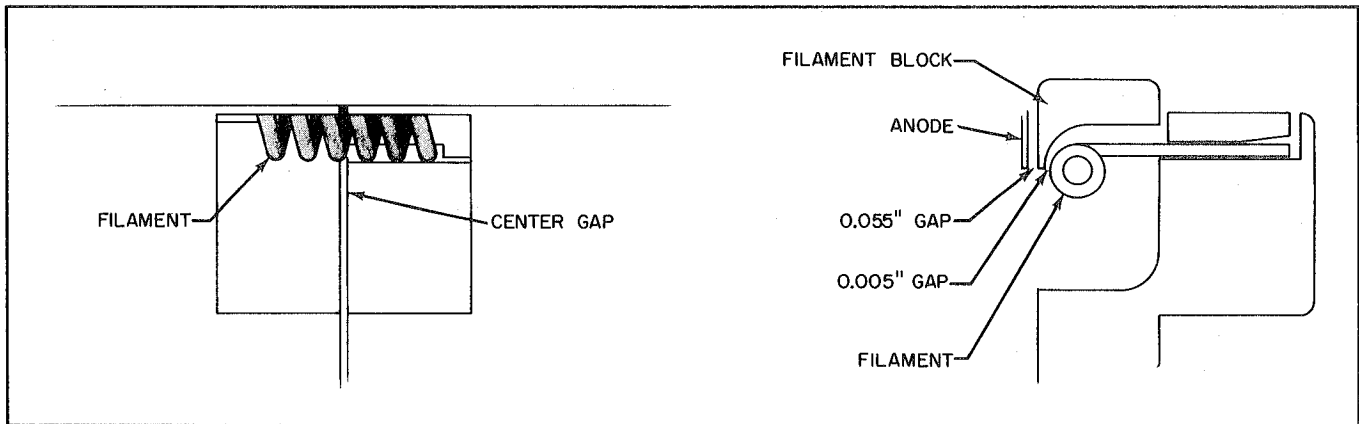

Figure 5-3. Cutaway Views Showing Properly Installed Filament.
The filament must be properly aligned as shown in Figure 5-3. If necessary, bend the legs slightly with pliers to achieve correct alignment.
- (10) From the front of the anode-cathode assembly, verify that the filament is centered in the cavity. Move it slightly from side to side to make sure the legs are centered in the V-groove in the clamp blocks. See Figure 5-3.
- (16) Tighten the filament screws to clamp the filament in position, making sure that there is a minimum of 0.005" clearance between the filament turns and the inner edge of the filament block directly in front of the filament. When properly located, the gap between the two middle turns of the filament should be immediately below the gap between the filament blocks. See Figure 5-3.
- (17) Install the anode on the anode base. Be sure to push it snugly against the shoulder of the recess in the base before tightening the anode screws. This will ensure the proper clearance of 0.055" +0.005" between the anode and the filament blocks.
- (18) Install the anode-cathode assembly on the gun and tighten screws #14.
- (19) Replace the high-voltage leads and tighten the screws firmly.
- (20) Replace the high-voltage shielding.